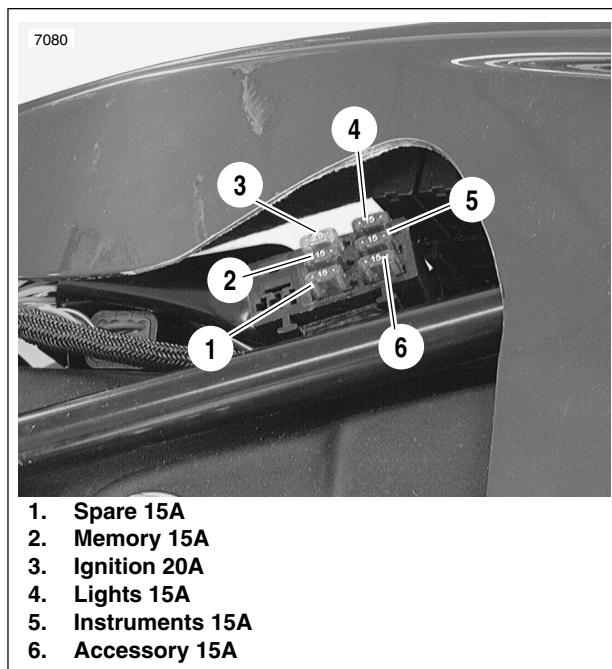

Figure 7-76. Fuse Block
See Figure 7-76. The fuse block is on the right side of the frame under the tail section. The block contains five replaceable fuses. A spare fuse (1) is attached to the fuse block. Additional spares may be added at the rider's discretion.